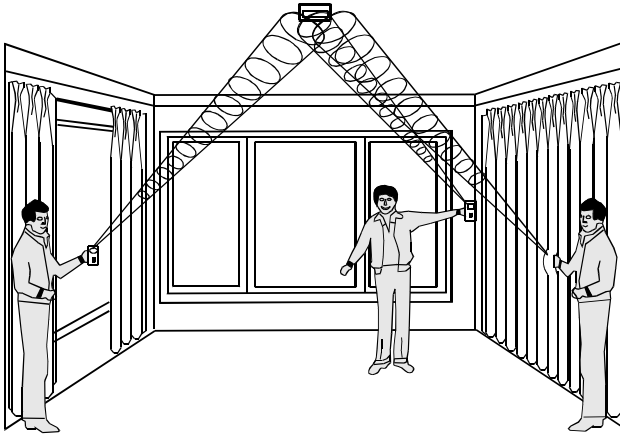

Figure 10. Testing the MCT-501
4.3 Testing the Sensor (see Figure 10).